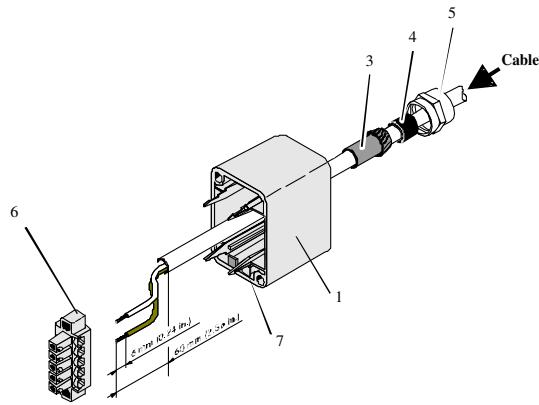

Figure 4: Mounting for the cable
- Remove all inner parts from the cable pipe at the SAB Cab (1) (nut (5), cable fastener (3), pipe(4)) (see Figure 4)
- Put all the removed parts (nut (5), cable fastener (3), pipe (4),) and the cable pipe of the SAB Cab as well (1 to 4) to the cable.